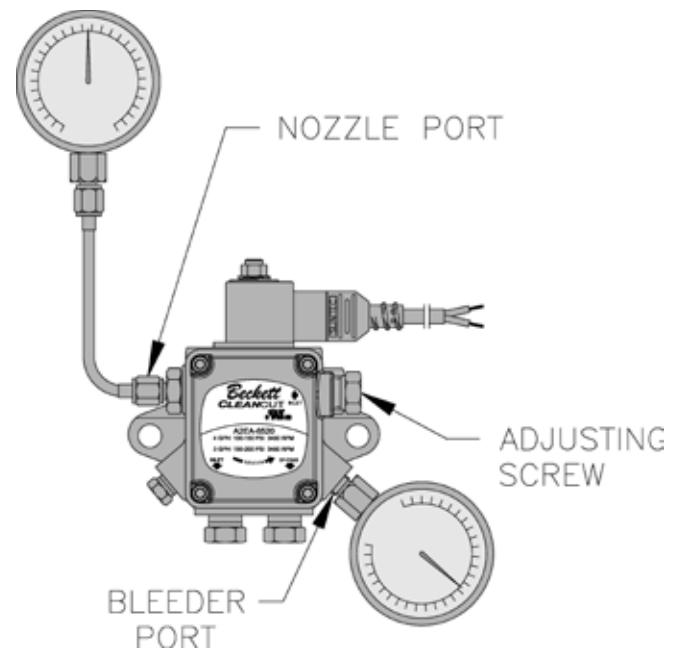

Figure 20B: Checking / Adjusting Fuel Pump Pressure
- a. Either, remove plastic hose and oil pump vent fitting, then, install a reliable pressure gauge into vent fitting port, or install the gauge into the nozzle port. See Figure 20B.